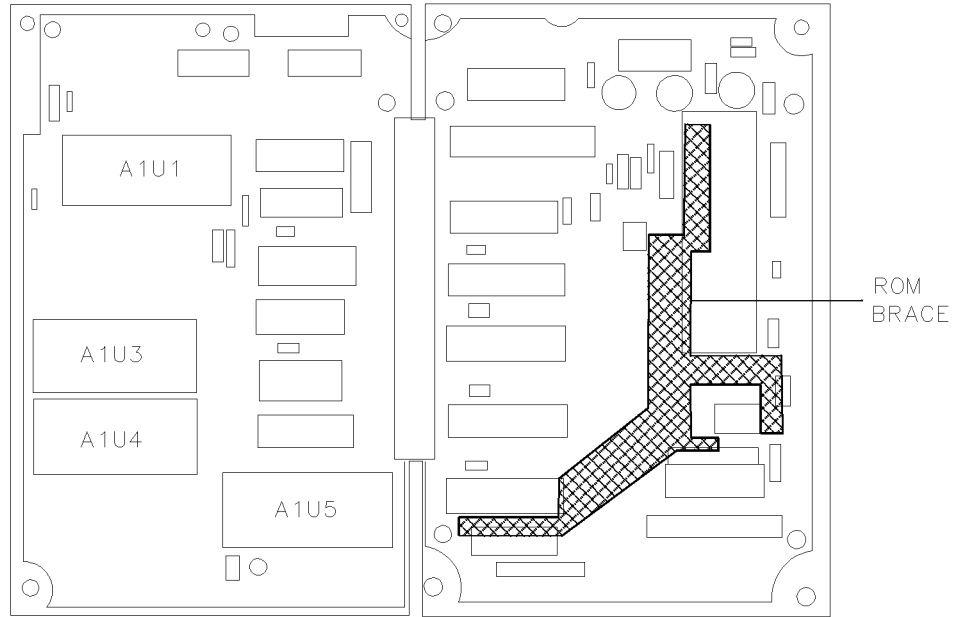

Figure 7-2. ROM or Board Replacement
Refer to Figure 7-2 and perform the following steps to replace the firmware (ROMs) in the TAM:
Refer to Figure 6-1 and Figure 7-2 and follow the steps below to replace the board assembly in the TAM.
3. Lift up the plastic ROM brace (see Figure 7-2) from the left-hand side of the TAM and set it aside.